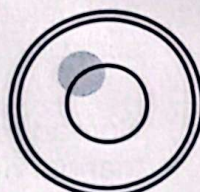

Fig.4.4
- 6) When using the spherical head tripod, slightly loosen the centering screw, hold the base plate ⑦ in both hands, and slide it across the tripod head until the bubble is in the proximity of the circular level ⑤ (Fig.4.4)